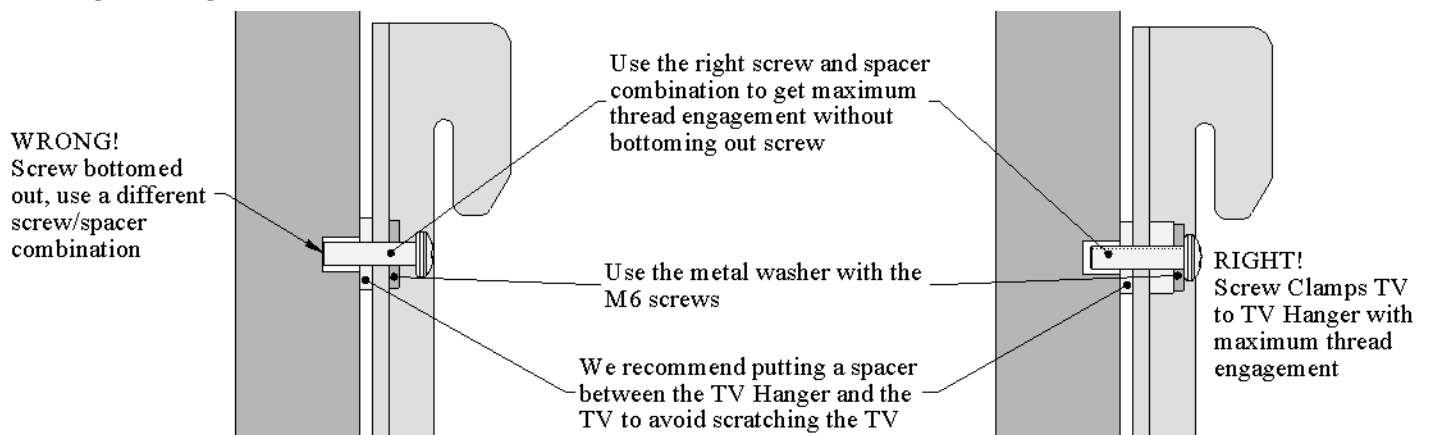

Figure 9, Attaching TV Hangers to TV
6. The bottoms of the TV Hanger, Mount, and Frame, are the same height. We recommend attaching the TV Hangers (Figure 9) to the TV and measuring from the bottom of the TV Hanger.